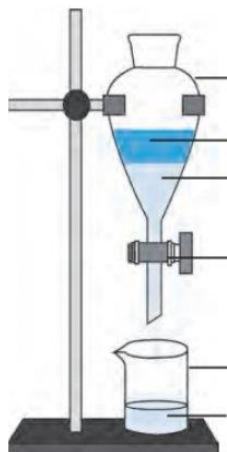

Figure.1
2. Provide a name for Figure.1 and label all its parts.